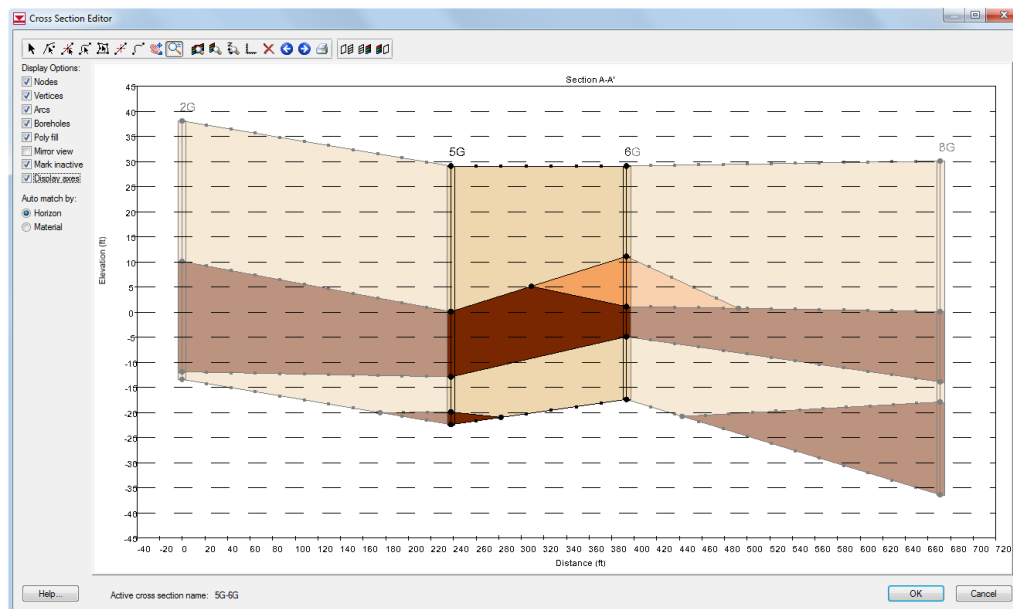

Figure 5 Multi-panel cross section editor ready for printing
15. Turn off the *Nodes*, *Vertices*, and *Mark inactive* options on the right side of the dialog. The plot should now look something like Figure 5: